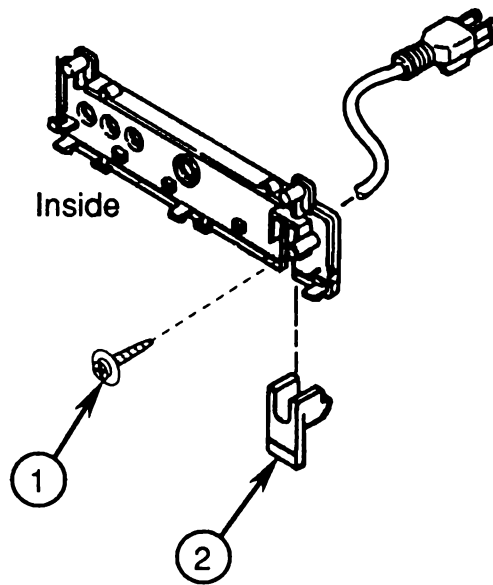

FIGURE 42
15. Remove the single screw that holds the power cord in place (Figure 42, #1).
16. Pull off the small plastic holding piece that fits underneath the power cord (Figure 42, #2), and remove the rear panel.